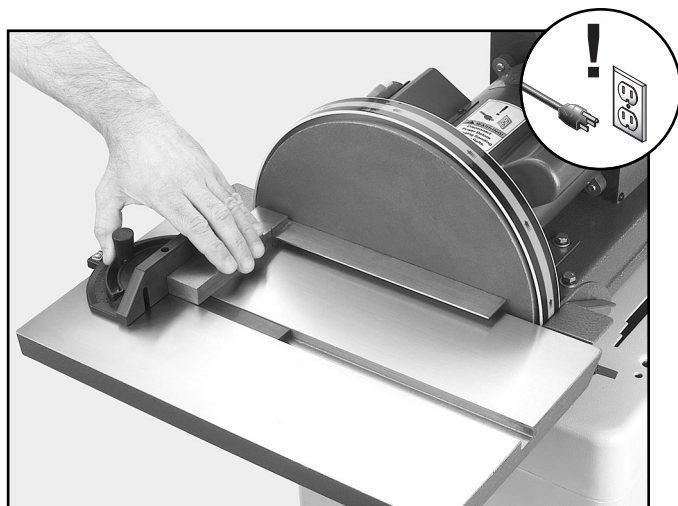

Figure 14. Squaring miter gauge to disc.
1. Use a machinist square with one edge against the face of the miter gauge and the other against the disc face as shown in **Figure 14**.